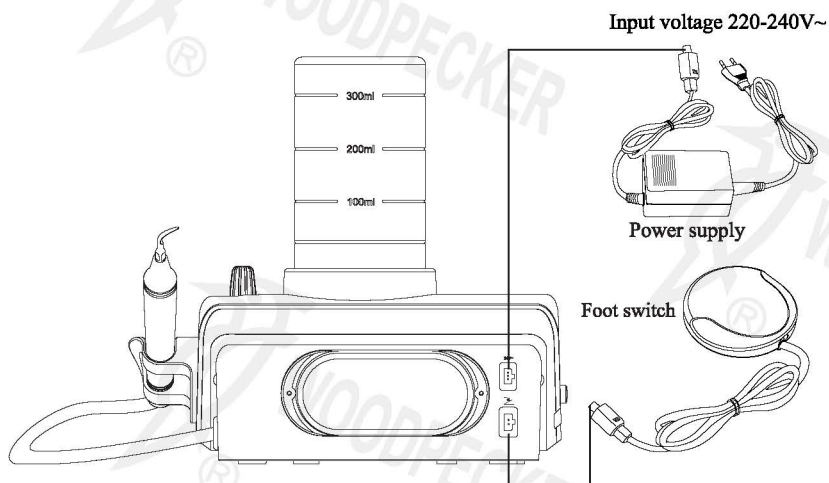

Figure 3
- c) Insert the plug of the foot switch to its socket (See Figure 3).